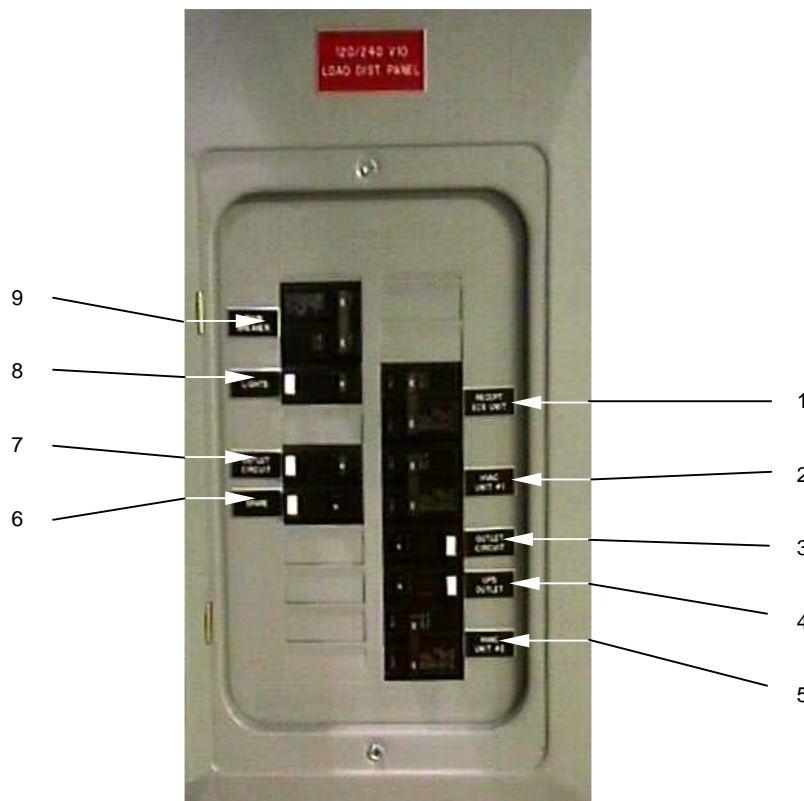

Figure 2-3. Power Distribution Panel (open)
2-4.3 POWER DISTRIBUTION PANEL. Breakers are contained in the power distribution panel (see Figure 2-3) to control power input to the components within the SNDLRCS van. Breakers are clearly marked as to their ON/OFF positions. Breakers trip to OFF when overloaded or a fault occurs. Both 120- and 208-volt power are available from the power distribution panel.
2-4.3.2 Environmental Control System (ECS) Supply Breaker. Figure 2-3, item 1 is a 20-amp, 220-volt breaker that supplies power to the ECS heat pump unit.
2-4.3.3 Forward Heat and Ventilation Air Conditioning Breaker. Figure 2-3, item 2 is a 20-amp, 220-volt breaker that supplies power to the forward air conditioning/heating unit.
2-4.3.4 Outlet Breaker #1. Figure 2-3, item 3 is a 15-amp, 110-volt, ground-fault interrupter (GFI-) protected breaker that supplies power to outlets within the SNDLRCS van.
2-4.3.5 Uninterruptible Power Supply (UPS) Breaker. Figure 2-3, item 4 is a 15-amp, 110-volt, GFI-protected breaker that supplies power to the UPS system and 24-volt dc transformer.
2-4.3.6 After Heat and Ventilation Air Conditioning Breaker. Figure 2-3, item 5 is a 20-amp, 220-volt breaker that supplies power to the after air conditioning/heating unit.
2-4.3.7 Spare Breaker. Figure 2-3, item 6 is a 15-amp, 110-volt, GFI-protected breaker. This breaker is an installed spare for future electrical system growth.
2-4.3.8 Outlet Breaker #2. Figure 2-3, item 7 is a 15-amp, 110-volt, GFI-protected breaker that supplies power to outlets within the SNDLRCS van.
2-4.3.9 Lighting Breaker. Figure 2-3, item 8 is a 15-amp, 110-volt, GFI-protected breaker that supplies power to lighting throughout the SNDLRCS van.
2-4.3.10 Master Breaker. Figure 2-3, item 9 is a 50-amp, 220-volt breaker that is the master input breaker to the power distribution panel.